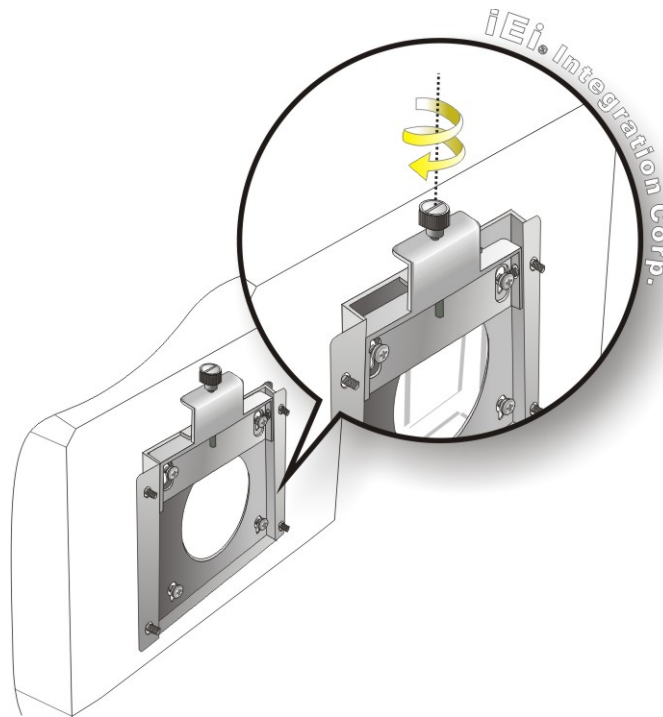

Figure 3-8: Securing the IOVU-210AD-RK39
Step 9: Secure the panel PC by fastening the retention screw of the wall-mounting bracket (**Figure 3-8**).